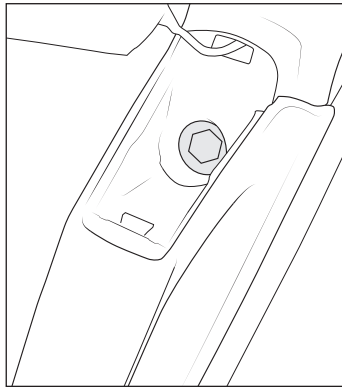

Figure 20
6. Use M10 socket and extension to remove mounting bolts retaining grab handle and trim panel to A pillar (fig. 20). Pull handle straight out from A pillar to unclip it.